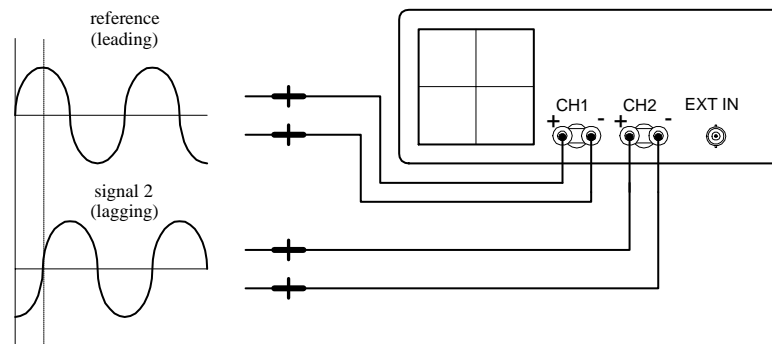

FIGURE 14.38
1. Step up equipment as shown in Fig. 14.38.